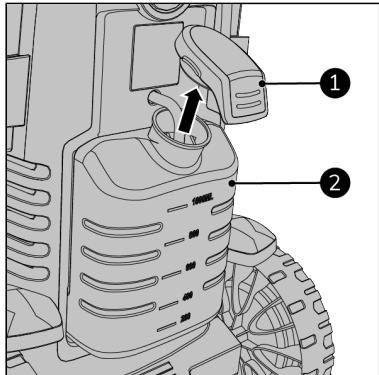

Figure 38.
1. Remove the cap (Figure 38, pos. 1) of the cleaning agent tank (Figure 38, pos. 2) at the back of the device.
3. Replace the cap (Figure 38, pos. 1).